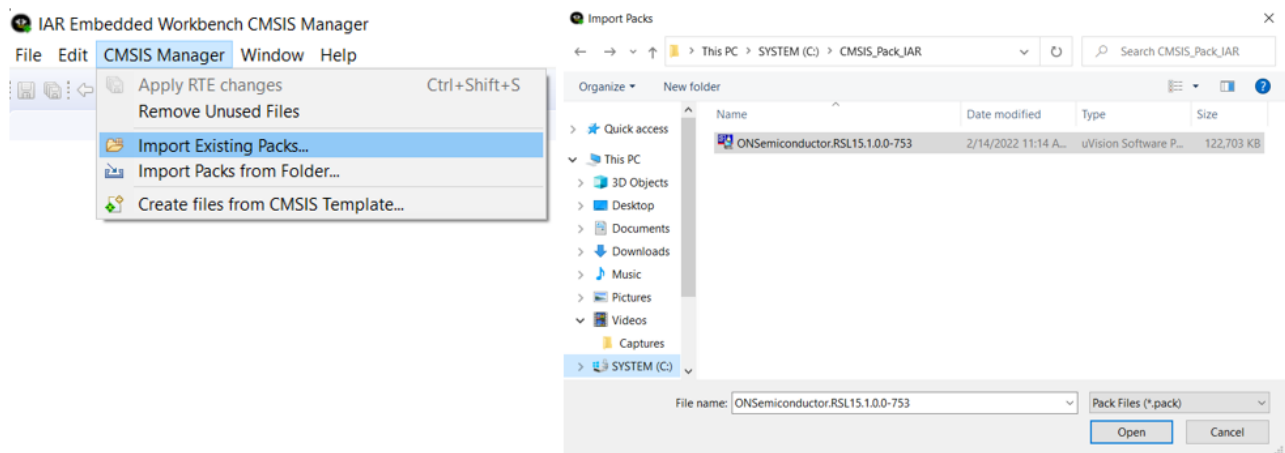

Figure 33. Installing the RSL15 CMSIS_Pack for the IAR Embedded Workbench IDE
3. Click on **CMSIS Manager > Import Existing Packs**, select your pack file *ON Semiconductor.RSL15.<version>.pack*, and click **Open** (see the "Installing the RSL15 CMSIS_Pack for the IAR Embedded Workbench IDE" figure (Figure 33)). <version> is the RSL15 version.